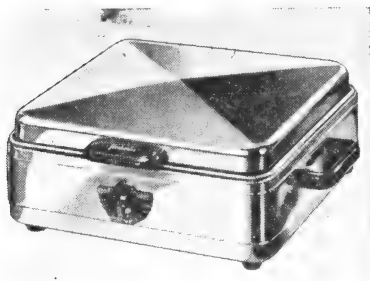
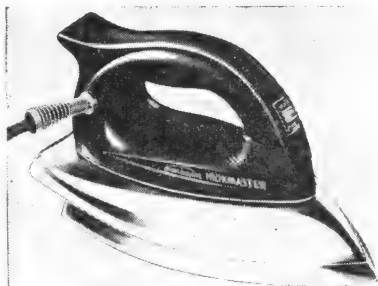
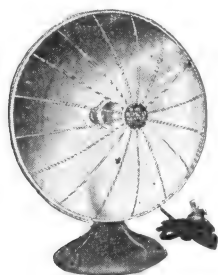

Fig. 6. Waffle Iron
Fig. 7. Electric Flatiron
Fig. 8. Electric Heater
**Heating Devices.** There are times when this heating effect of the current is put into good use, and then the heat is not a loss but a distinct advantage. Many different types of apparatus have been designed, which make use of this **heating effect** of the electric current. Some examples of these are the electric toaster, the electric hot plate or stove, Fig. 6, the electric flat iron, Fig. 7, the electric heater, Fig. 8, etc. Apparatus of this type makes use of a special wire which is usually an alloy or composition of several metals of which nickel and chromium are the principals, and this is combined into a special form and known as a heating element. This alloy is